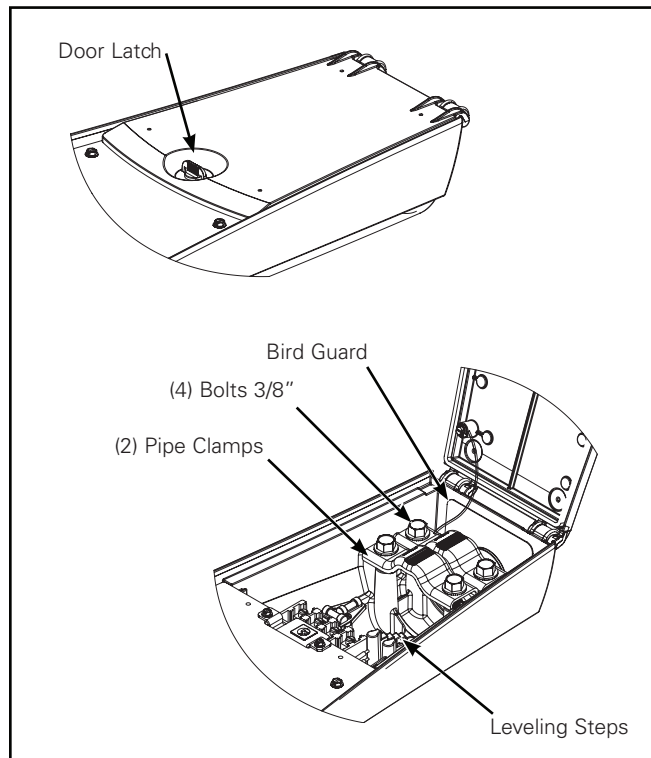

Figure 1.
3. Using a 9/16" socket, loosen the two pipe clamp bolts(4) enough to allow mounting arm (not included) to slide onto leveling steps. (Figures 1 & 2.)